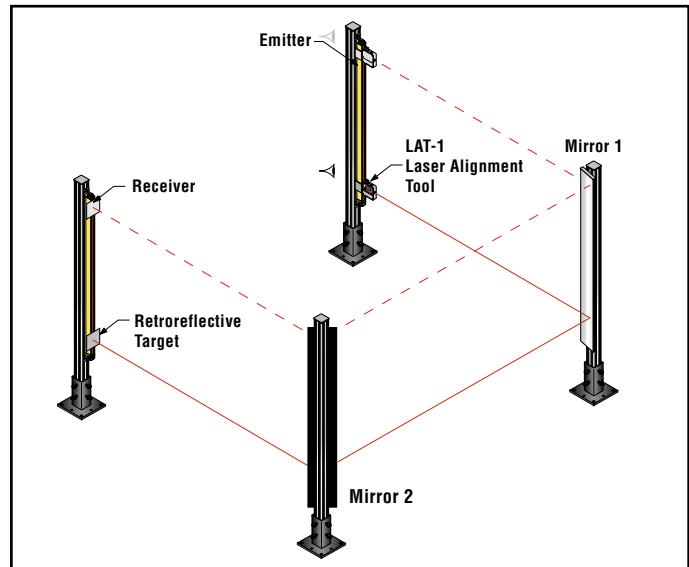

Figure 2. Aligning a corner-mirror light screen application using the Laser Alignment Tool
4. Standing behind the Alignment Tool, view the retroreflective target from behind the sensor (see Figure 2). Adjust either or both sensors and/or the corner mirrors as needed to place the laser image at the desired spot on the opposite sensor.